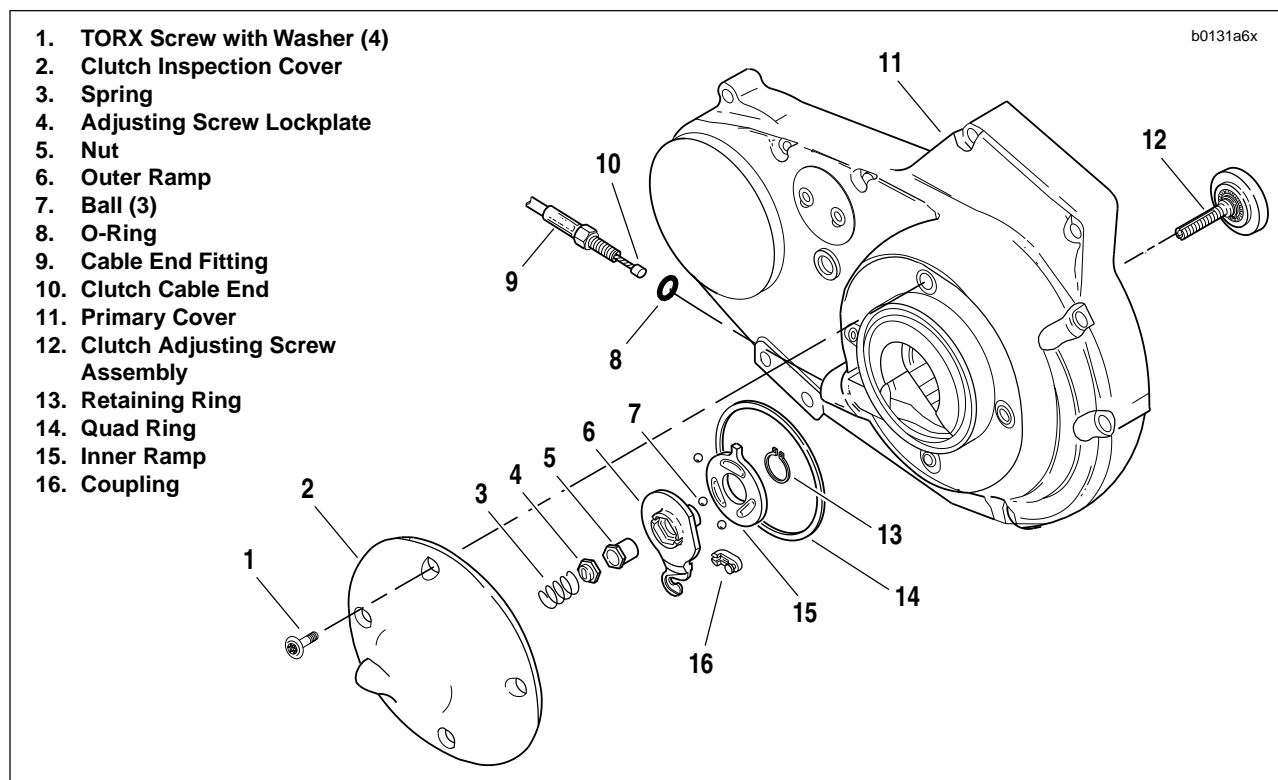
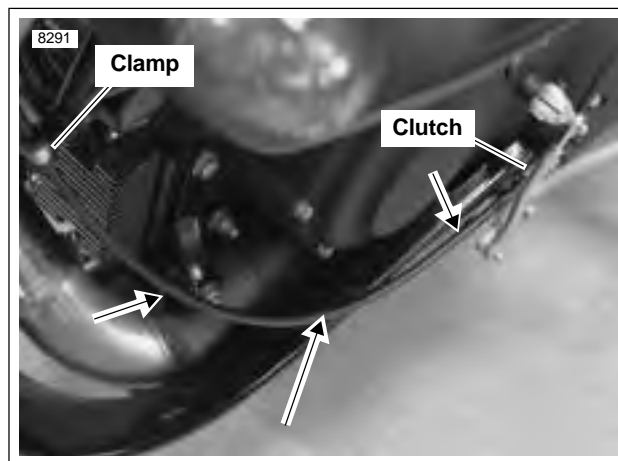

Figure 2-97. Clutch Release Mechanism
Figure 2-99. Clutch Cable Routing, Lower
2. See Figure 2-97. Remove four TORX screws (1) with washers and clutch inspection cover (2). Do not damage or dislodge quad ring (14) in primary cover (11).
3. Slide spring (3) with attached hex lockplate (4) from flats of adjusting screw (12).
4. Turn adjusting screw clockwise to release ramp and coupling mechanism. As the adjusting screw is turned, ramp assembly moves forward. Unscrew nut (5) from end of adjusting screw.
5. Remove hook of ramp (6) from button at the rear of cable end coupling (16). Remove cable end (10) from slot in coupling.
6. Turn cable end fitting (9) counterclockwise to remove clutch cable lower section from primary cover (11). Remove O-ring (8) from cable end fitting.
1. See Figure 2-97. Install O-ring (8) over cable end fitting (9) of clutch cable lower section. Turn fitting clockwise to install into primary cover (11). Tighten fitting to 3-9 ft-lbs (4-12 Nm).
2. Fit coupling (16) over cable end. Place hook of ramp around coupling button and rotate assembly counter-clockwise until tang on inner ramp (15) fits in slot of primary cover (11).
3. Thread nut (5) on adjusting screw (12) until slot of screw is accessible with a screwdriver. Fit nut hex into recess of outer ramp (6) and turn adjusting screw counter-clockwise.
- a. See Figure 2-99. Route cable along left side of primary chaincase and up to clamp on front isolator tie bar. Cable must not touch chin fairing.
- d. See Figure 2-99. Route cable down left side of bike, through clamp, along primary chaincase to clutch. Cable must not touch chin fairing.